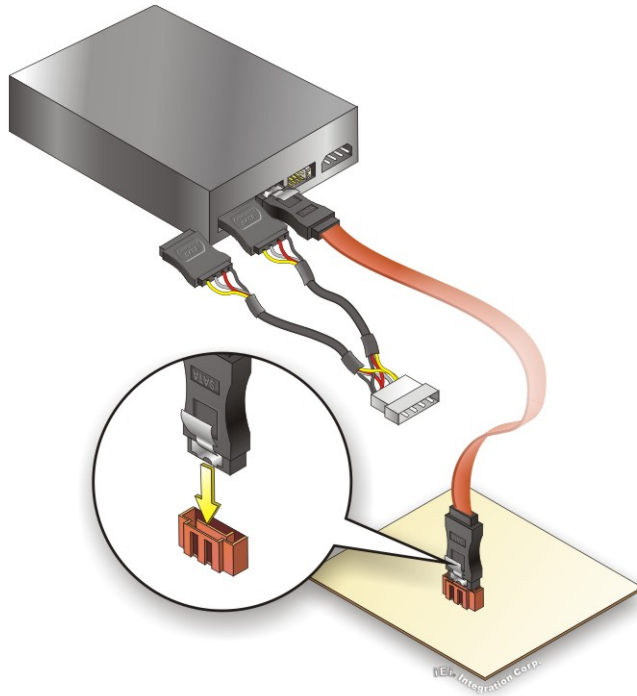

Figure 4-19: SATA Power Drive Connection
Step 3: Connect the cable to the SATA disk. Connect the connector on the other end of the cable to the connector at the back of the SATA drive. See **Figure 4-19**.
Step 4: Connect the **SATA power cable (optional)**. Connect the SATA power connector to the back of the SATA drive. See **Figure 4-19**.